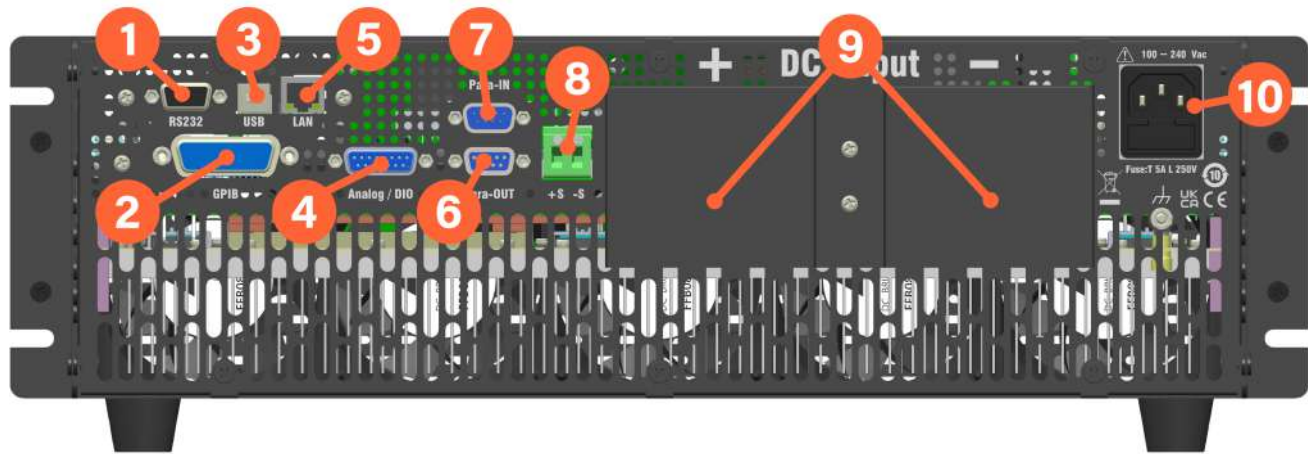

Figure 3.7 Rear Panel Overview
1. Locate the fuse box next to the AC input connector in the rear panel. (See figure 3.7)